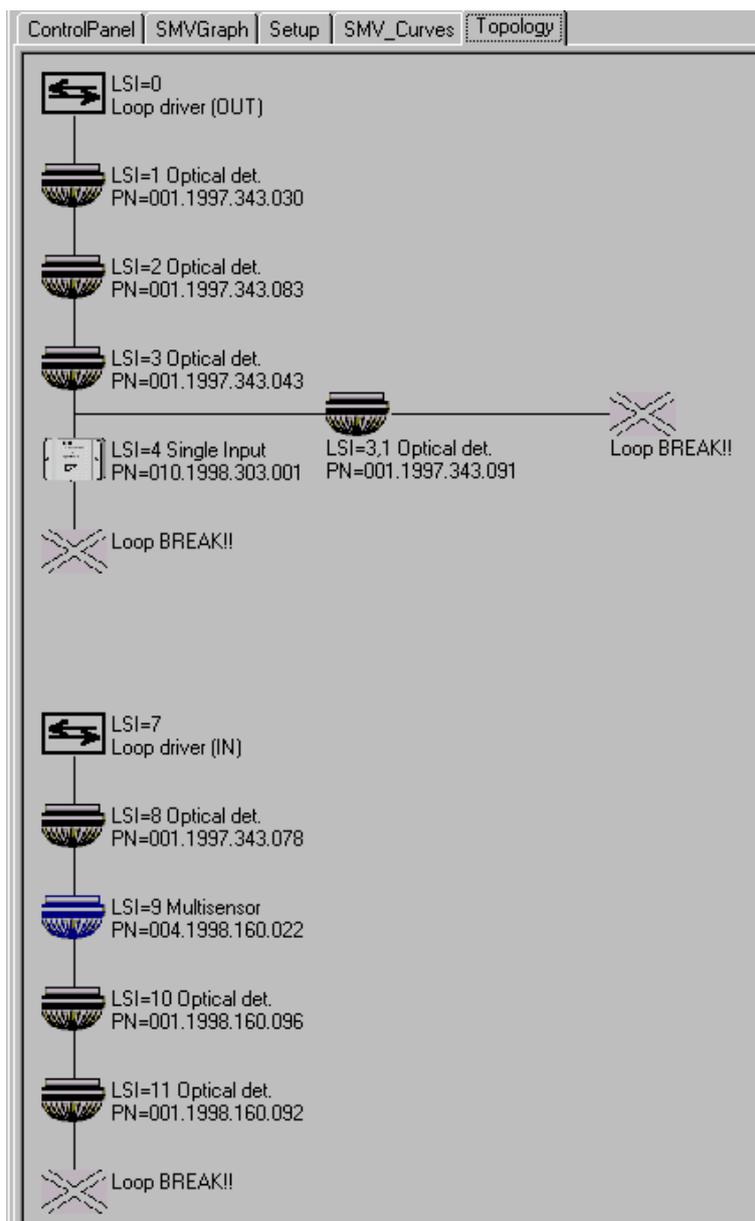

Figure 32. Break in loop wiring
- Figure 32.* Break in loop wiring